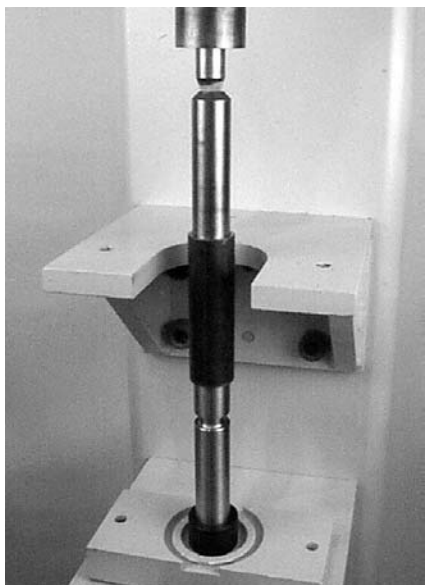

Figure 56
5. Using arbor press or similar device, press bearing onto pulley shaft (see Figure 56).